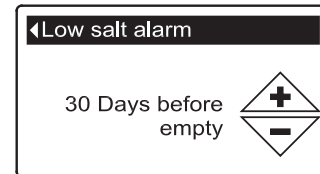

FIG. 31
5. Press the SELECT (○) button to display the Low salt alarm screen (See Figure 31).